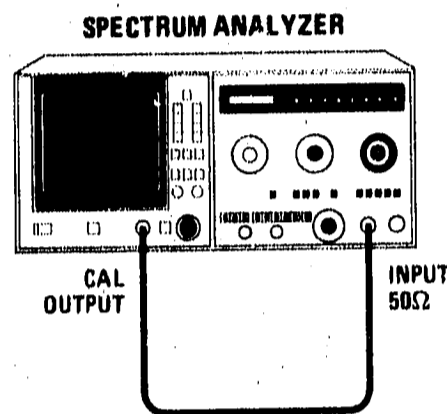

Figure 5-60. Absolute Amplitude Calibration Test Setup
2. Reconnect power cord, set LINE switch ON, and connect equipment as shown in Figure 5-60. Set all normal (green) spectrum analyzer settings, except as indicated, and other controls as follows: